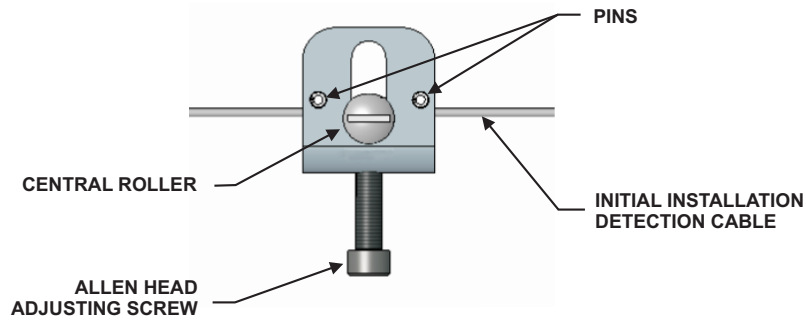

Figure 4-43. Cable Tension Block Assembly, P/N 60-9197220-000
23. Locate the Cable Tension Block Assembly. The adjusting screw and central roller must be in the uppermost position. Thread the detection cable through the cable tension block, passing over the two pins and under the central roller (see Figure 4-43).